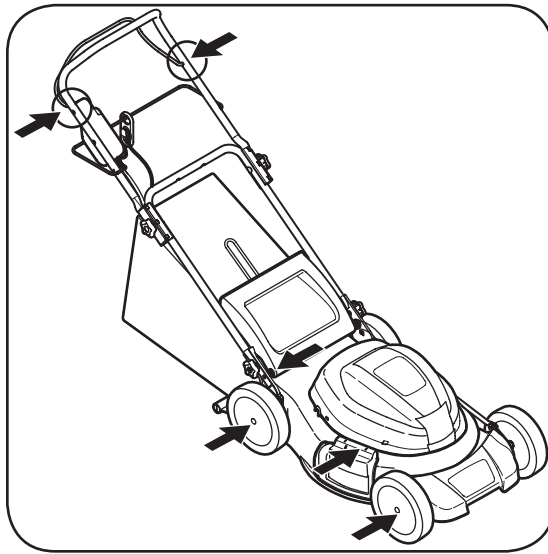

Figure 5-1
- Lubricate the wheels at least once a season with light oil (or motor oil). If wheels are removed for any reason, lubricate surface of the pivot arm and inner surface of the wheel with light oil. See Figure 5-1.
- Lubricate the torsion spring and pivot point on the rear discharge door and side mulch plug periodically with light oil to prevent rust. See Figure 5-1.